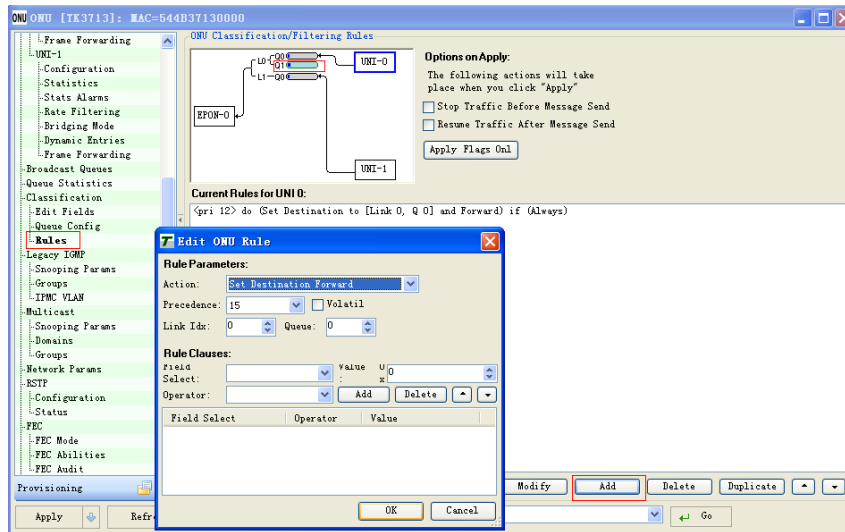

Figure 8-17 Edit Queue Rules
- 2) In the Rules and structural chart, select Q1 and click Add to display the window of Edit ONU Rule shown in the Figure 8-17;